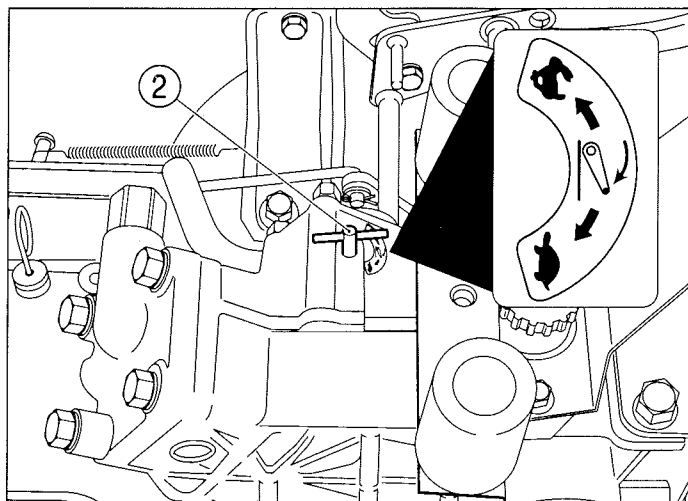

FIG. 58
FIG. 58: Lowering Rate Control Handle (2) controls the discharge rate of hydraulic oil thus adjusting lowering speed of the hitch and implement. Turn the handle clockwise to slow drop rate, counterclockwise to increase drop rate. Turning the handle fully clockwise will lock the implement in raised position.
**CAUTION:** Use the position control lever (1) when attaching or detaching an implements.